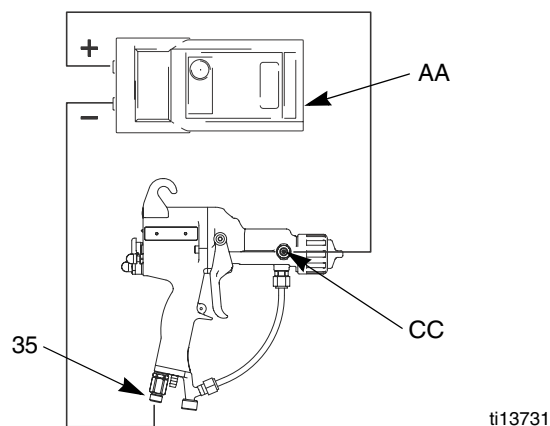

FIG. 9. Test Gun Resistance
Measure resistance between the air swivel (35) and the charging probe socket (CC) (see FIG. 9); it should be 70-95 megohms. If outside this range, check the power supply and barrel resistance. If in range, test the charging probe resistance.
Measure resistance between the metal spring in the charging probe (DD) and the charging probe tip (BB) (see FIG. 9); it should be 15-30 megohms. If outside this range, replace the charging probe. If in range, inspect the spring and barrel socket for possible causes of poor continuity. Reassemble the charging probe and retest the gun resistance.